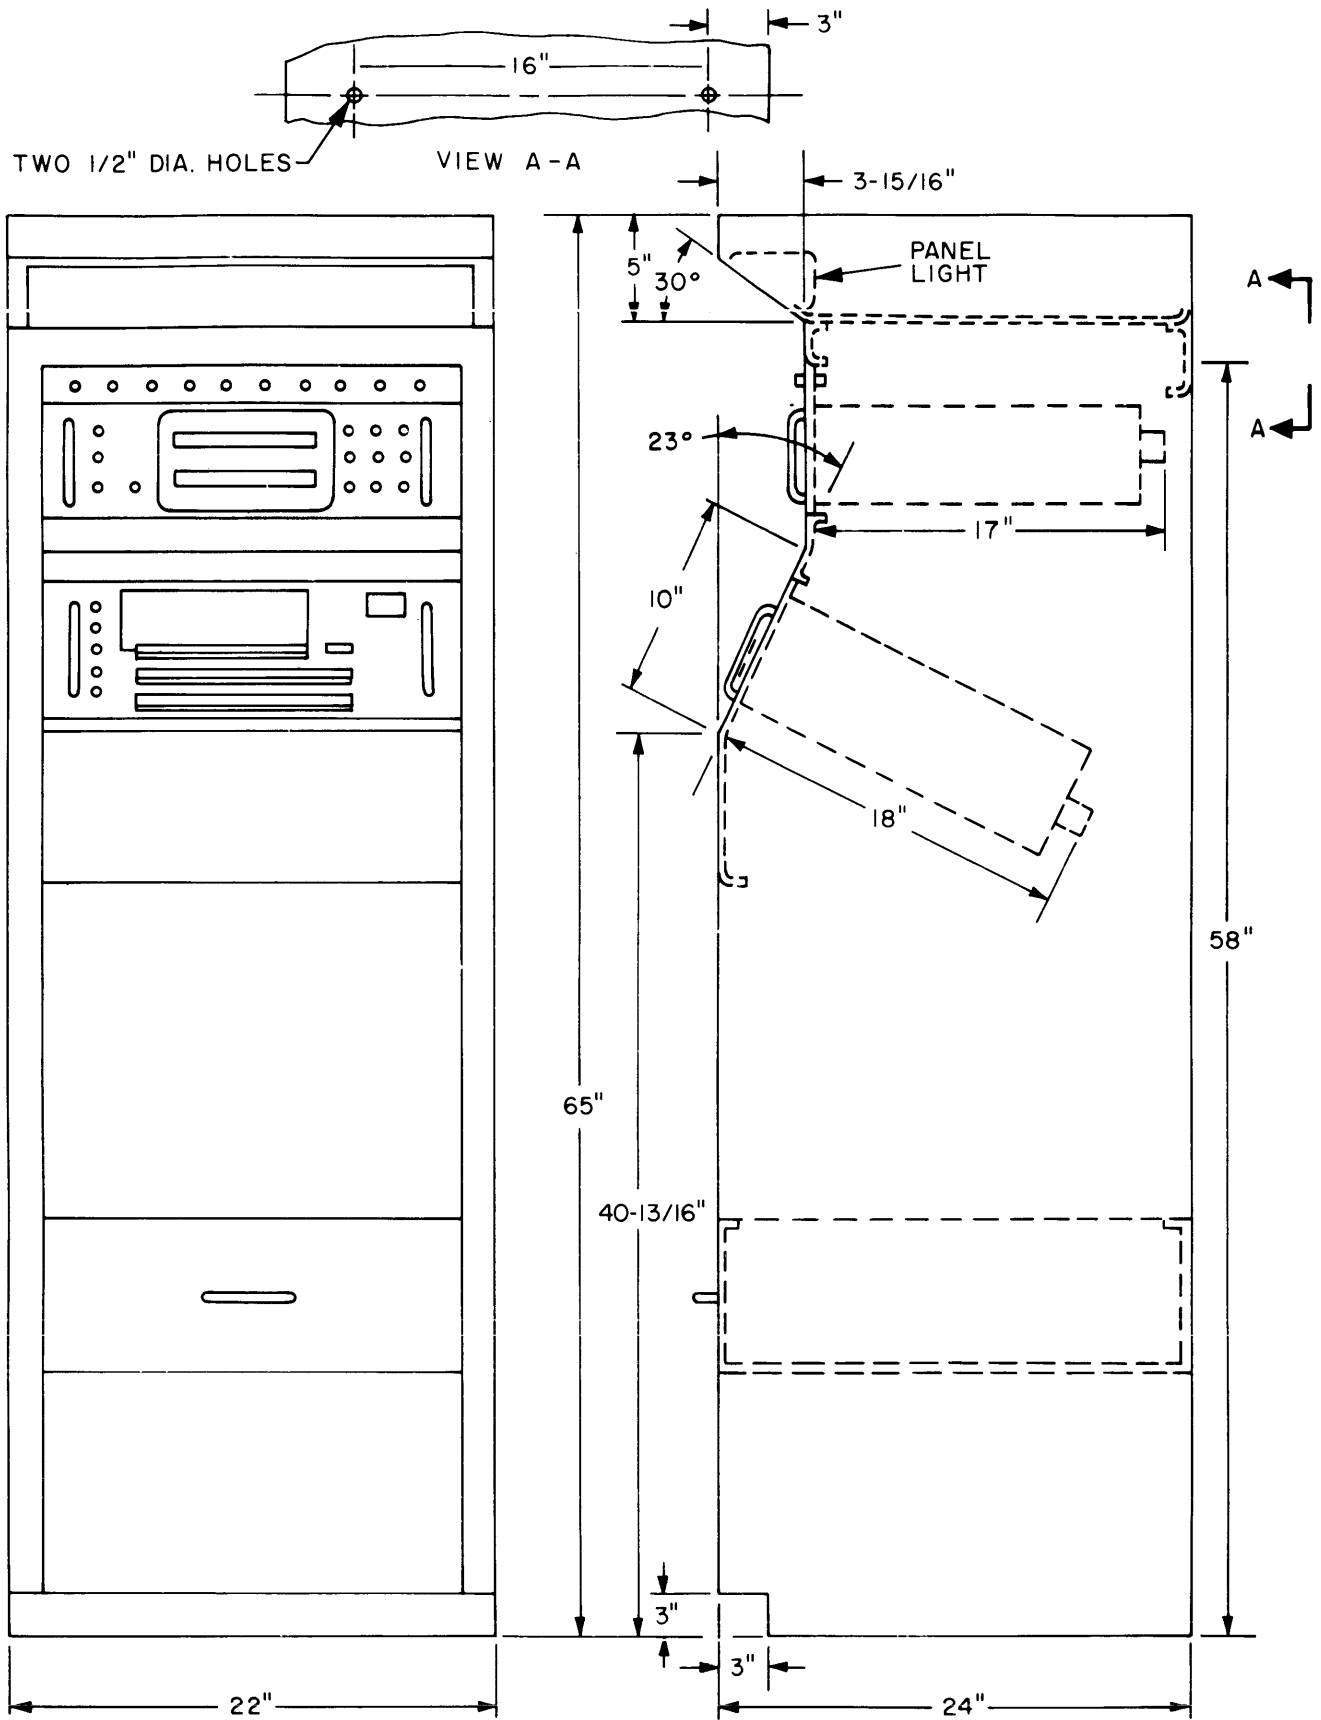

Figure 2-2. Outline and Dimensions of Console
The console (figure 1-1) may be located in any enclosure (room, deck or van) with sufficient clearance as depicted in figure 2-2. Allow a minimum of two feet above the console for adequate heat dissipation and to prevent back pressure in the cooling-air exhaust stream. The console is designed for fixed station, transportable or ship installation. Remote readback into the console is by means of conventional teletype linkage by a cable from the teletype loop current supply. The connector (INPUT J2) for this cable is located on the Channel/Frequency Indicator rear panel. The length of the cable should be consistent with the loop current supply, so as to prevent line drop (see paragraph 2-4b (3) (c)).